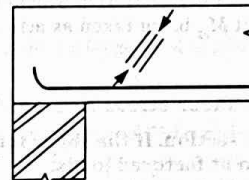

Fig. 2.14.3. Diagonal compression failure.
- Diagonal Compression Failure :** Diagonal compression failure occurs under large shear force. It is characterized by the crushing of concrete. Normally, it occurs in beams which are reinforced against heavy shear as shown in Fig. 2.14.3.